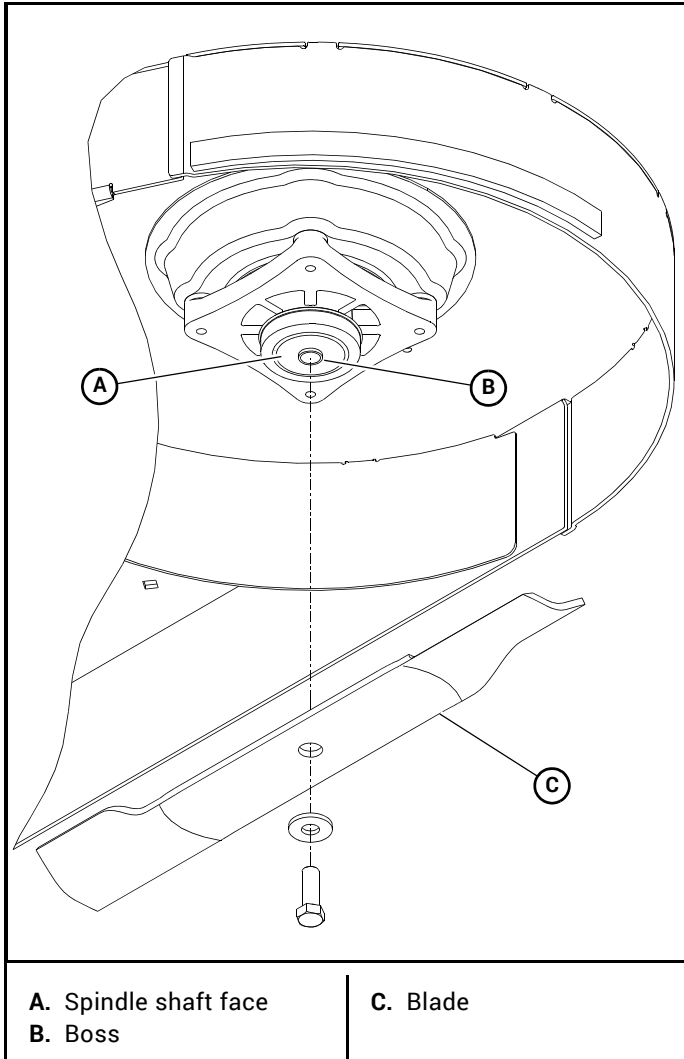

Figure 6-9
4. Use a 5/8" wrench to remove the 7/16" cap screw holding the blade to the spindle shaft. Figure 6-9
7. The spindles have a 5/8" diameter boss that centers the blades on the spindles. When re-installing blades, ensure that the blade is centered on the boss and seated flat against the spindle shaft face. Figure 6-9